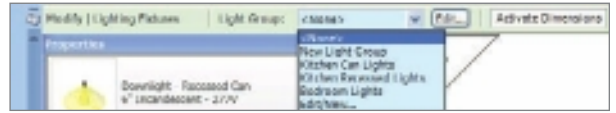

Figure 9.15
3. On the Options bar (Figure 9.15), set Light Group to the desired group to move the selected lights into.